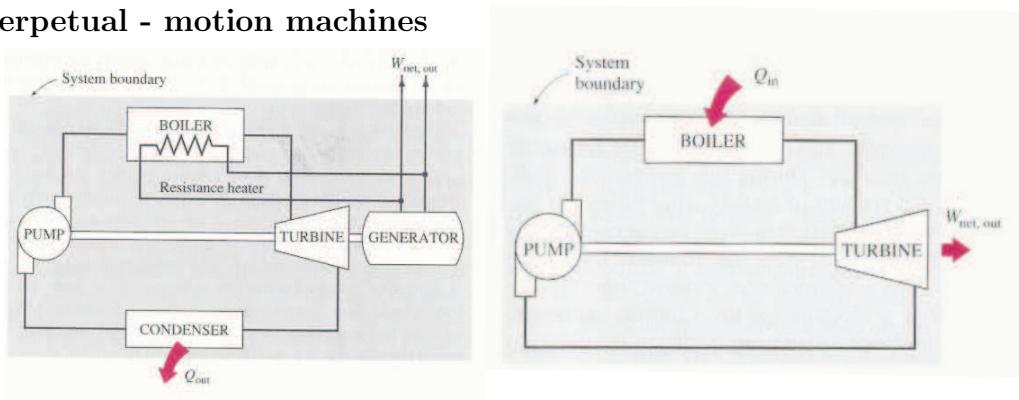

Figure 13: Perpetual - motion machines for exercise 7.13
- a: Consider the power plant given at the left side of figure 13. It is proposed to heat steam by resistance heaters placed inside the boiler, instead of by the energy supplied from fossil fuel or nuclear fuels. Part of the electricity generated by the plant is to be used to power the resistors as well as the pump. The rest of the electric energy is to be supplied to the electric network as the net work output. The inventor claims that once the system is started, this power plant will produce electricity indefinitely without requiring any energy input from the outside and it will solve the world's energy problem.
- b: Consider the power plant given at the right side of figure 13. It is proposed to heat steam in the boiler by an external source. The heated steam is expanded in the turbine to generate electricity. The steam leaving the turbine is sent to the pump immediately. It is not first condensed in a condenser (which is done in the present steam turbine cycles) as that device discards a lot of the heat supplied in the boiler to the environment. This way all the heat transferred to the steam in the boiler will be converted to work, and thus the power plant will have a theoretical efficiency of 100%. Of course some heat losses and friction between moving components will occur, but still the inventor expects that the machine has an efficiency no less than 80% (as opposed to 40% in actual power plants) for a well designed system.